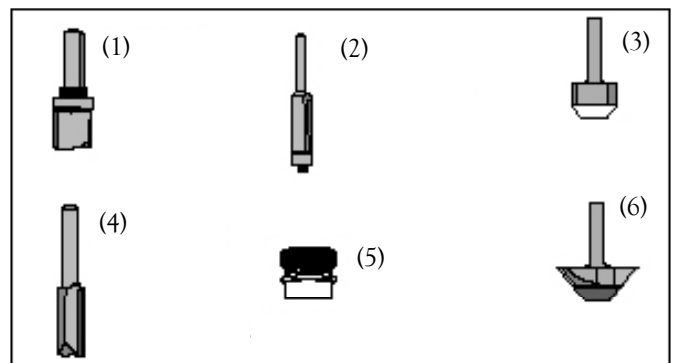
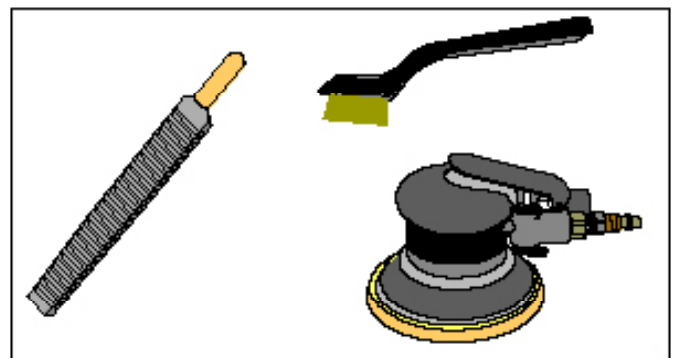

Figure 3B
Figure 3C
- General Router Bits (FIG. 3B)
- 11/8" (28.6mm) Top bearing flush trim bit (1)
- 3/4" (19mm) Straight cut bit (4)
- 3/8" (6mm) Bottom bearing flush trim bit (2) (velvet touch guide bearing suggested)
- Template Guide (FIG. 3B)
- 11/4" (31.75mm) Template guide (5)
- HD® Sink bits (FIG. 3B)
- H1006782 - 7/8" (19mm) Flush trim bit (3)
- H1006783 - Beveled profile bit (6)
- Sanders (FIG. 3C)
- Laminate file (FIG. 3C)